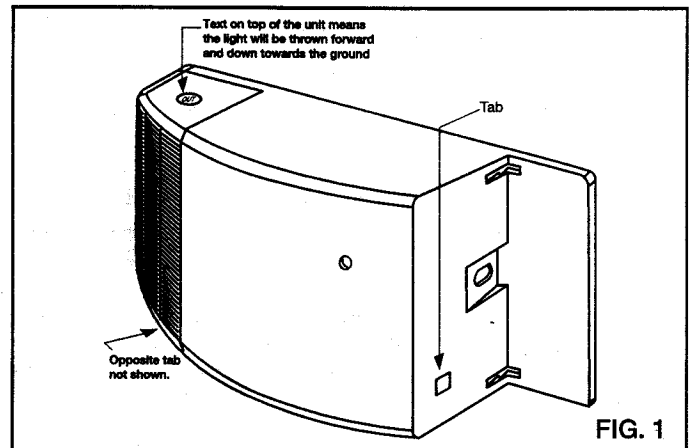

FIG. 1
Step 2. Remove mounting plate from housing by removing both lenses and depressing two tabs, one on each side of housing. (Fig. 1)
NOTE: When the word out that is engraved on the lenses is located on top of the unit the light will be thrown forward and down towards the ground. If the word out is on the bottom of the unit the light will be thrown forward and up. (Fig. 1)